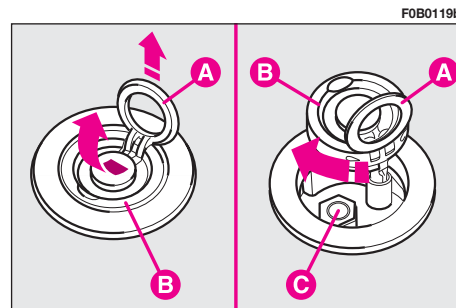

fig. 4
8) Open the tailgate and use ring **A**-fig. 4 to lift and turn cap **B** protecting the spare wheel lock bolt **C**.